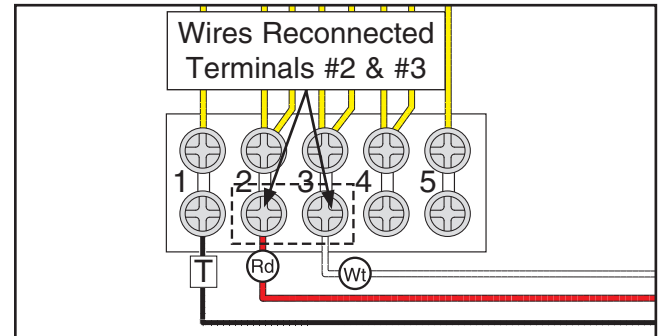

Figure 17. Welding transformer rewired for 110V.
- Remove the wire connected to the #4 terminal on the welding transformer, and move it to the #2 terminal; remove the wire connected to the #5 terminal, and move it to the #3 terminal (see **Figure 17**). The machine is now wired for 110V.